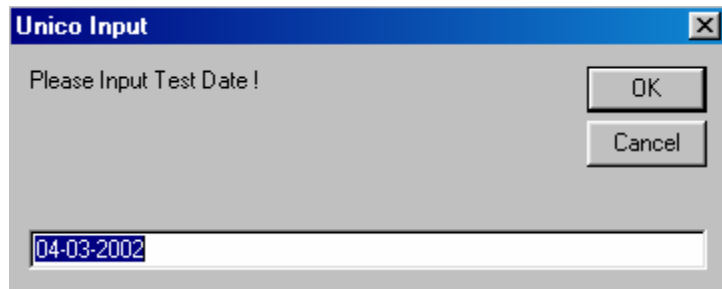

Figure-24 Test Date
- **Test Date:** **Test Date** will be displayed automatically. To alter it, simply click it at the left corner of the screen and enter the desired date (Figure-24).